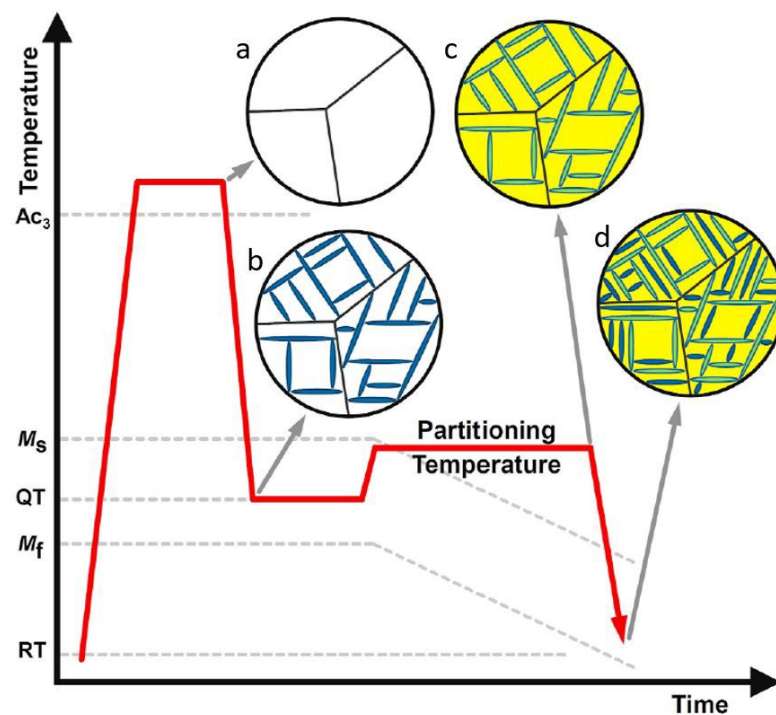

Figure 4. Schematic of the heat treatment process of a Q&P steel;
- c) Quenched and Partitioned (Q&P) steels belong to the 3rd generation AHSS. In general, Q&P steels have a composition of 1-1.5 wt.% Mn, 0.1-0.3 wt.% C, and 0-1.5 wt.% Al. Figure 4 demonstrates the heat treatment of a Q&P steel.
- What are the phases shown in the microstructures of a-d in Figure 4? Explain briefly what happened during the "partitioning" process. Why did the temperatures M_s and M_f decrease during partitioning? (3P)
- The volume fraction of the retained austenite at stage "d" in the above Q&P steel was observed to first increase and then decrease with increasing quench temperature (QT in Figure 4). Provide a possible explanation for this phenomenon. (2P)